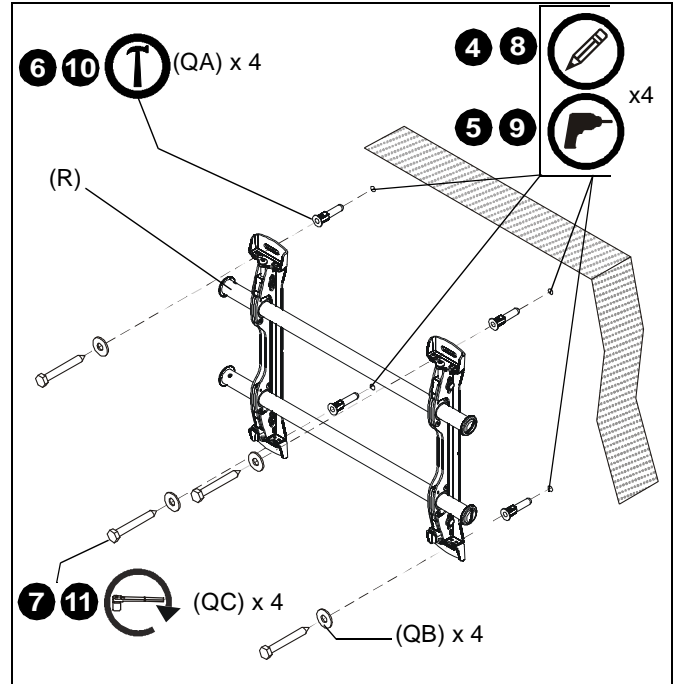

Figure 4
2. Line up the notches on mount (R) with center of screen marking to determine vertical center. (See Figure 4)
3. Measure up 7-1/2" (190.5mm) from the center point to mark location of the upper mounting slots. (See Figure 4)
4. Using a level, mark the wall through both upper mounting slots. (See Figure 4)
5. Drill one 5/16" pilot hole at each marking. (See Figure 4)
6. Install an anchor (QA) into each upper pilot hole using a hammer, making sure that the anchor is flush with the wall. (See Figure 4)
7. Use two 5/16 x 2-1/2" lag bolts (QC) and two 5/16" flat washers (QB) to attach top of mount (R) to anchors in wall. (See Figure 4)
8. Mark the attachment points for the lower mounting slots. (See Figure 4)
9. Drill one pilot hole at each marking for lower mounting holes. (See Figure 4)
10. Install an anchor (QA) into each lower pilot hole using a hammer. (See Figure 4)
11. Use two 5/16 x 2-1/2" lag bolts (QC) and two 5/16" flat washers (QB) to attach the mount to the wall through the lower mounting holes. (See Figure 4)